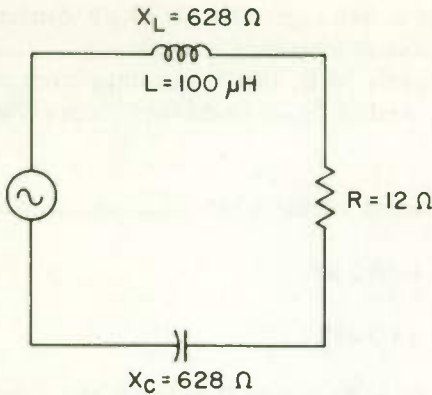

Fig. 4
6. $1\ \text{MHz}$... First we draw a circuit such as Fig. 4. Since $X_L = X_C$, we know the circuit is at resonance. Therefore the value of X_L is found by using the formula $X_L = 2\pi fL$ where $f = f_0$.